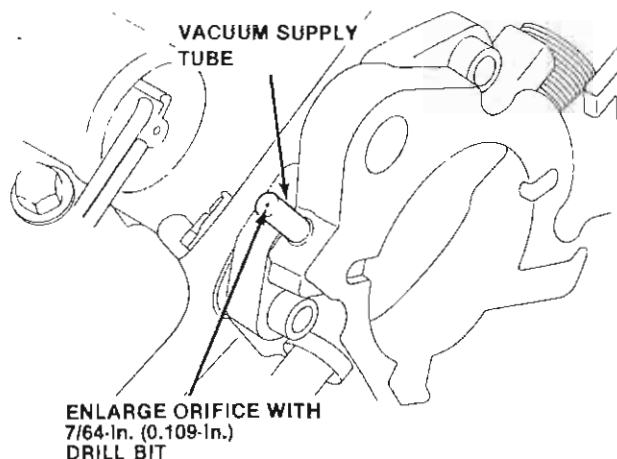

Fig. 1
2. Disconnect the vacuum break supply hose from the vacuum supply tube in the carburetor base (Fig. 1).
3. Increase the diameter of the orifice in the vacuum supply tube with a 7/64-in. (0.109-in.) drill bit (Fig. 1).